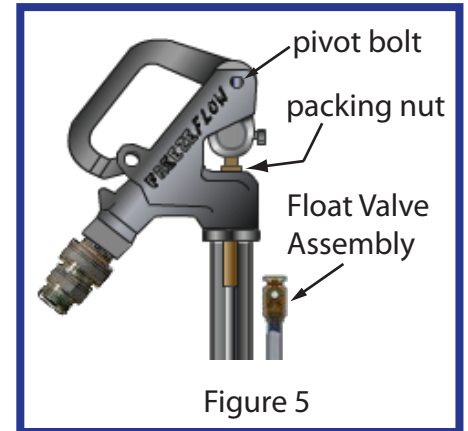

Figure 5
- Remove Pivot Bolt and loosen packing nut (Figure 5)